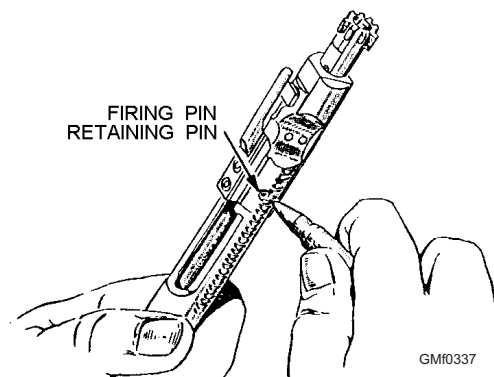

Figure 3-37.—Pressing out the firing pin retaining pin.
5. To disassemble the bolt carrier group, press out the firing pin retaining pin by using a driftpin (fig. 3-37). Elevate the front of the bolt carrier and allow the